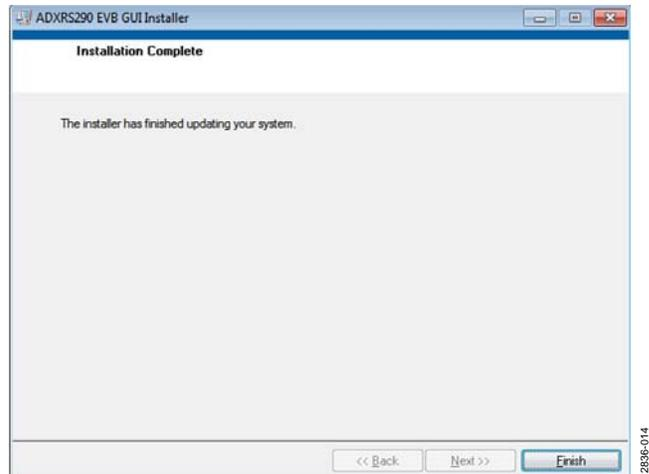

Figure 13. Installation Complete
4. To start the installation, click **Next**. The installer completes installation of the software evaluation GUI and all required National Instruments drivers and run-time engines. Figure 13 shows the dialog box that is displayed after the installation is complete.